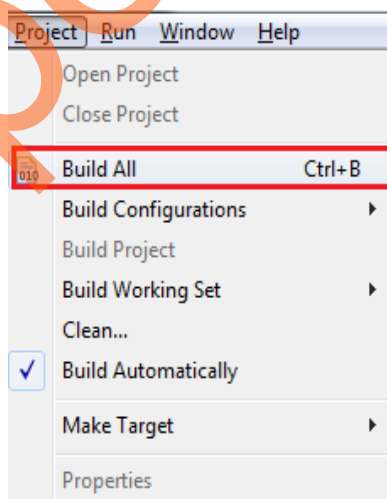

Figure 38 • Project - Build All
22. Click **Project** and then click **Build All**, as shown in Figure 38.